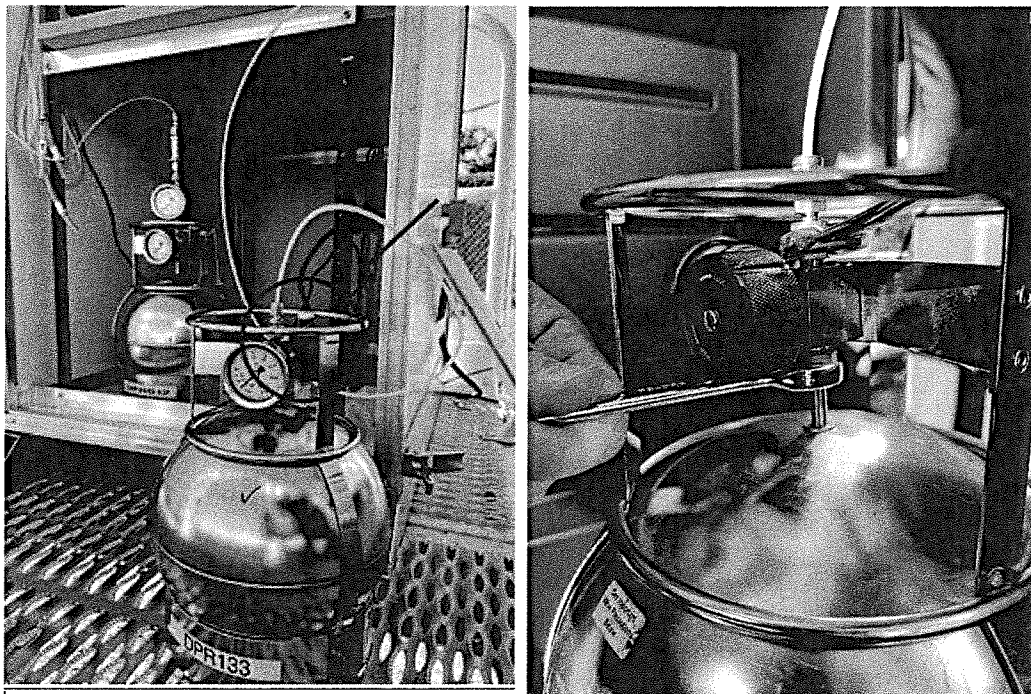

Figure 8: Nutech 2703 tubing with nut connected to a 6-L SUMMA canister.
- Connect the Nutech 2703 controller tubing with nut to an evacuated 6-L SUMMA canister (Figure 8 – Left Image) and manually tighten the nut with your fingers to ensure the threading is lined up correctly. Use two 9/16" combination wrenches to tighten down (in opposite directions) the Nutech 2703 tubing with nut to the canister. One wrench should be used on the nut of the Nutech 2703 tubing, and the other on the Swagelok fitting below the pressure gauge (Figure 8 – Right Image).